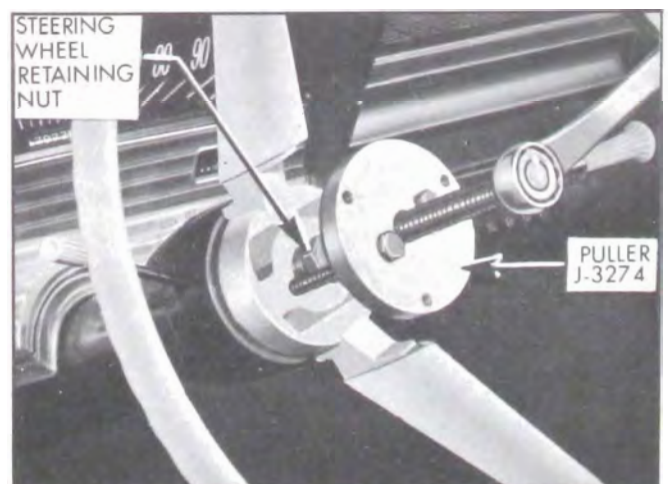

Figure 8-11—Removing Steering Wheel
4. Attach Puller J-3274 to wheel hub and pull wheel up to nut. See Figure 8-11. If wheel hub is very tight on shaft, apply a moderate strain with puller then tap end of puller screw to break hub loose from shaft without distorting wheel hub. Remove puller, nut, and steering wheel.